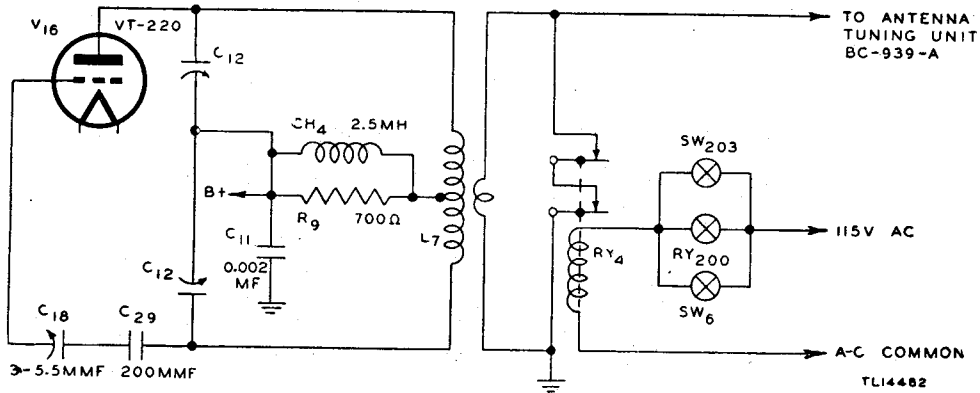

Figure 76. Antenna shorting relay RY4—functional diagram.
c. **ANTENNA SHORTING RELAY  $RY_4$**  (fig. 76). Relay  $RY_4$  is a double-pole, double-throw relay located on the r-f deck of the transmitter near the p-a tank coil. Its purpose is to short-circuit the antenna-coupling coil of the p-a tank coil when the transmitter is not in operation. The coil of relay  $RY_4$  is connected in parallel with the coil of relay  $RY_1$ ; therefore both relays operate at the same time. When relay  $RY_4$  is not energized, the contacts are connected in series across the antenna-coupling coil, shorting it out. When the relay is energized, the contacts are drawn apart, removing the short circuit from across the coupling coil.